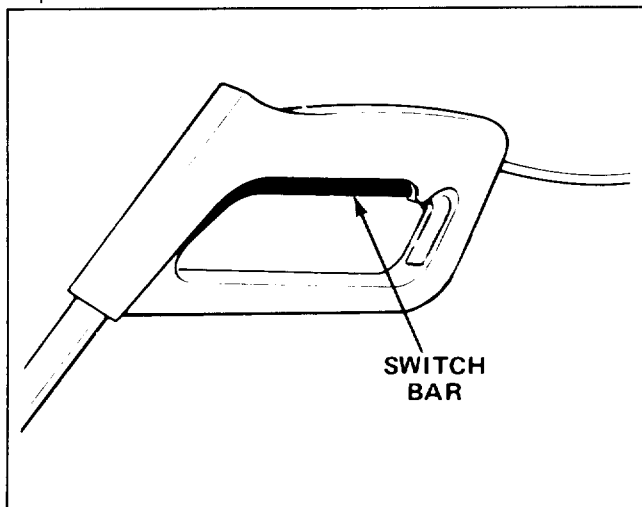

Figure 4
3. To turn the trimmer on, squeeze the switch bar on handle (Fig. 4). The switch bar must be depressed for the trimmer to run.